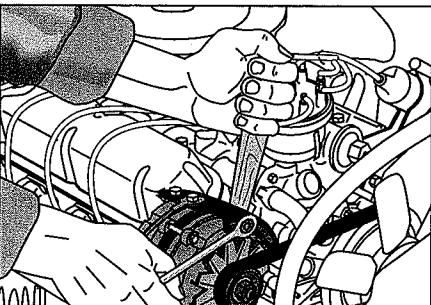

Figure 14-15:
5. Pull the part by hand until the belt is snug; then use a hammer handle to apply leverage until the belt has less than $\frac{1}{8}$ inch of "play." Tighten the adjustment bolt or securing nut (see Figure 14-15). Tighten the pivot bolt or securing nut (refer to Figure 14-11).